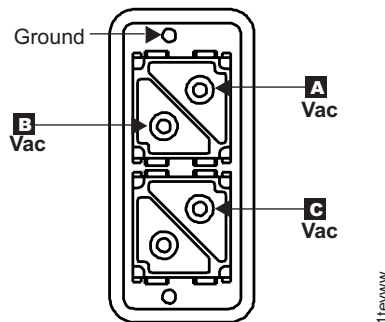

Figure 38. Mainline power cable connector
1. Prepare the multimeter to measure 1.0 V ac or less. Measure the voltage on the female ground pin on each mainline power cable and building ground. Refer to Figure 38 on page 42.